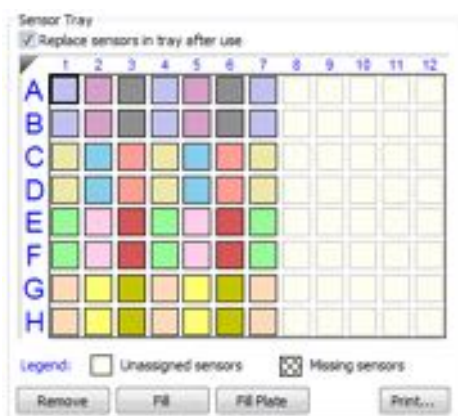

Figure 5-33: Replace Sensors in Tray After Use Check Box
- Optional for the Octet K2 instrument only: After an assay is completed, the biosensors can be returned to the biosensor tray or ejected through the biosensor chute to an appropriate waste container. To return the biosensors to the tray, click the **Replace sensors in tray after use** check box (see Figure 5-33).